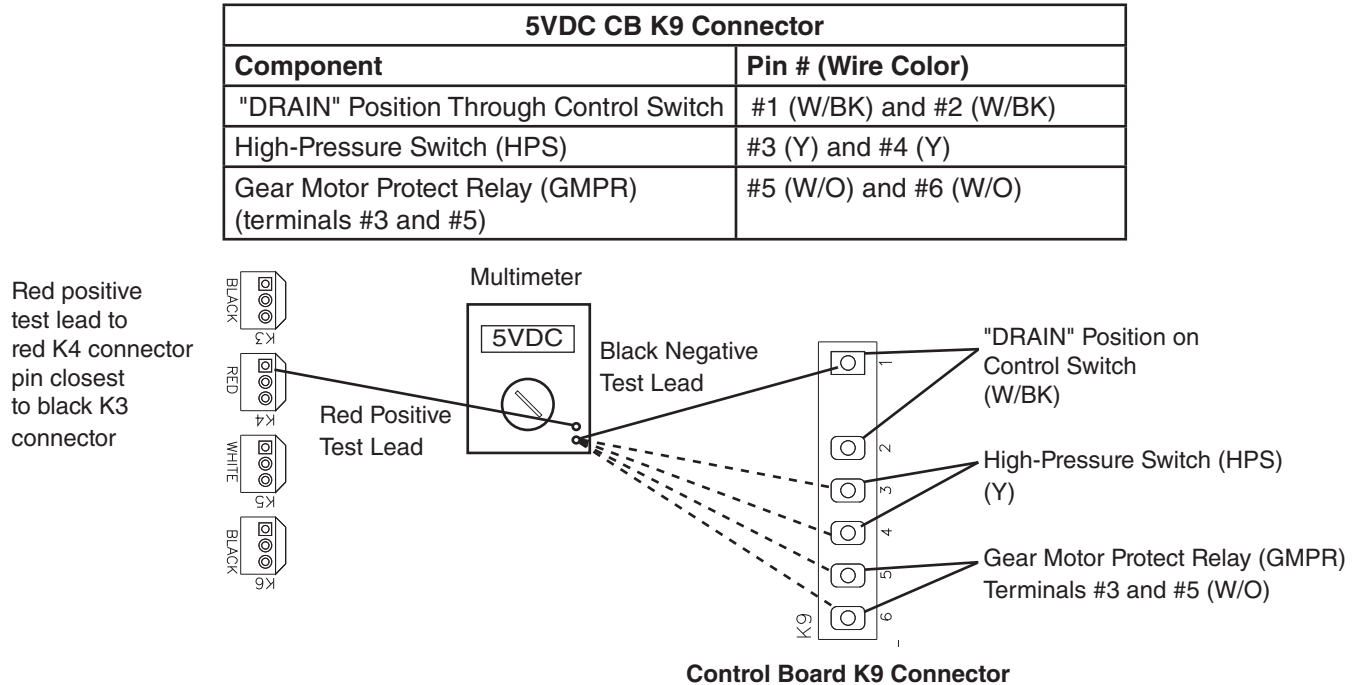

Fig. 1
- When checking for 115VAC high-voltage (primary), always choose a 115VAC neutral (W) to establish a good neutral connection.
2) **5VDC Output Checks:** There are seven 5VDC circuits on the appliance, "DRAIN" position through control switch, high-pressure switch (HPS), gear motor protect relay (GMPR), bin control (BC), float switch (FS), ice dispense switch, and water dispense switch.
• **5VDC CB K9 Connector:** See Fig. 1.